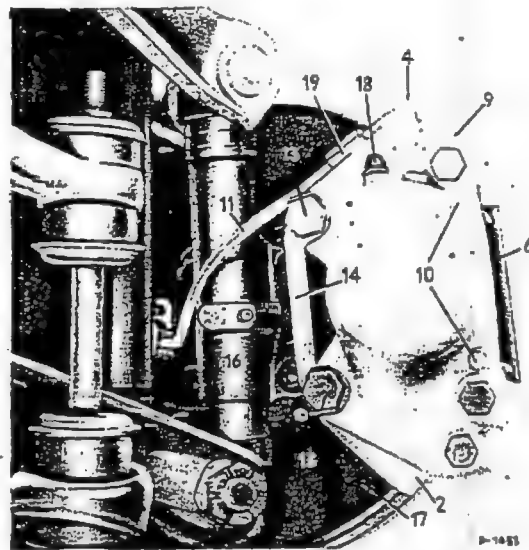

Fig. 42-7/6
4. Use a feeler gage to check the position of the brake caliper in relation to the brake disk at the machined points "M" of the brake calipers as follows (Figs. 42-7/11 and 42-7/12).